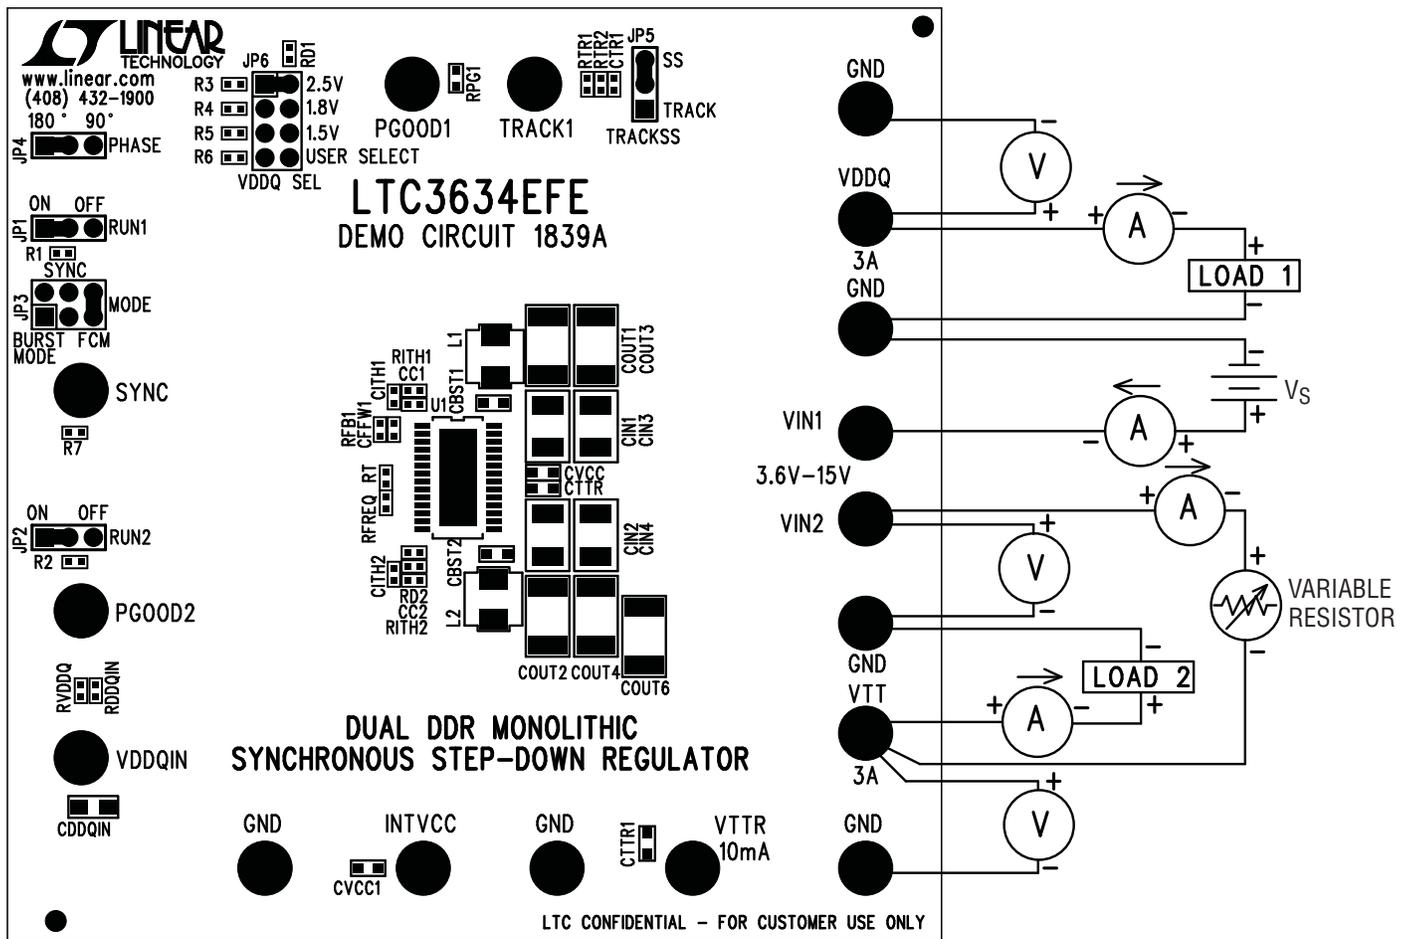

Figure 1. Proper Measurement Equipment Setup
The DC1839A is easy to set up to evaluate the performance of the LTC3634. For a proper measurement equipment configuration, set up the circuit according to the diagram in Figure 1.
1. Connect the input power supply to the V_{IN} and GND terminals. Connect the loads between the V_{OUT} and GND terminals. Refer to Figure 1 for the proper measurement equipment setup.